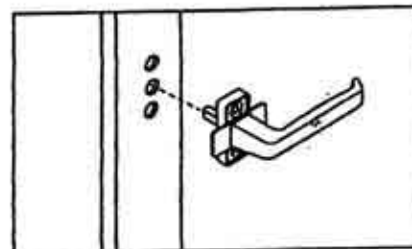

Figure 5-6. Handle in the Turn position
- 2.5 Glide position: rotate the SA-FE-Handle to the horizontal Glide position, with the handle pointing toward the hinge side of the sash. Install the SA-FE-Handle on the sash: insert the shaft into the center hole. See fig. 5-6.